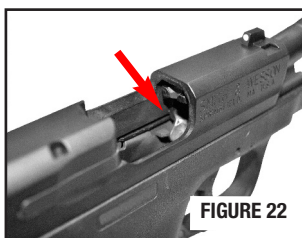

FIGURE 22
- Make certain that the chamber is clear (FIGURE 22).